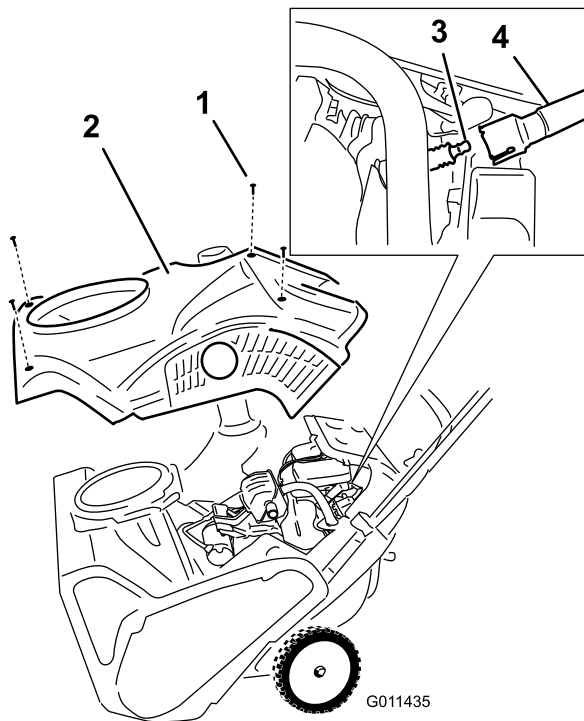

Figure 34
- Remove the 4 screws that secure the shroud (Figure 34).
- Remove the shroud (Figure 34).